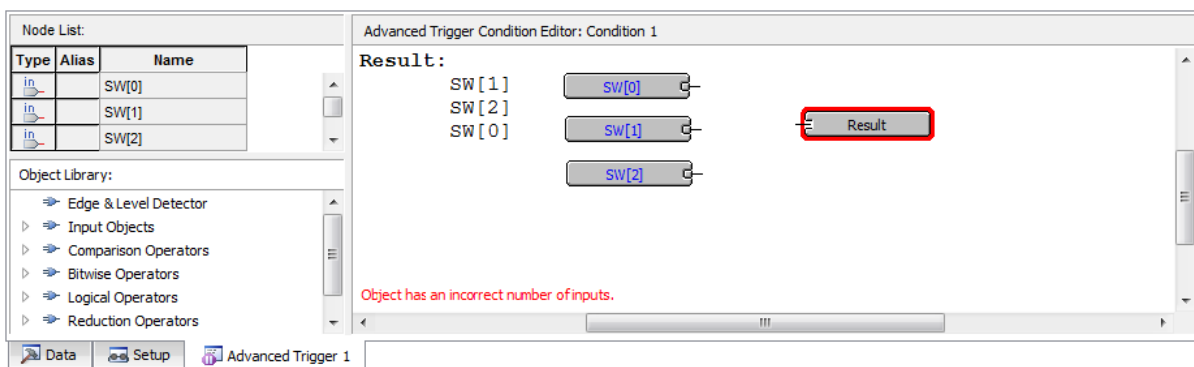

Figure 19. The three input nodes of interest dragged into the Advanced Trigger Editing Window.
4. In the node list section of this window, highlight the 3 nodes SW[0] to SW[2], and click and drag them into the white space of the Advanced trigger window, resulting in Figure 19. Note that you can also drag and drop each node individually.